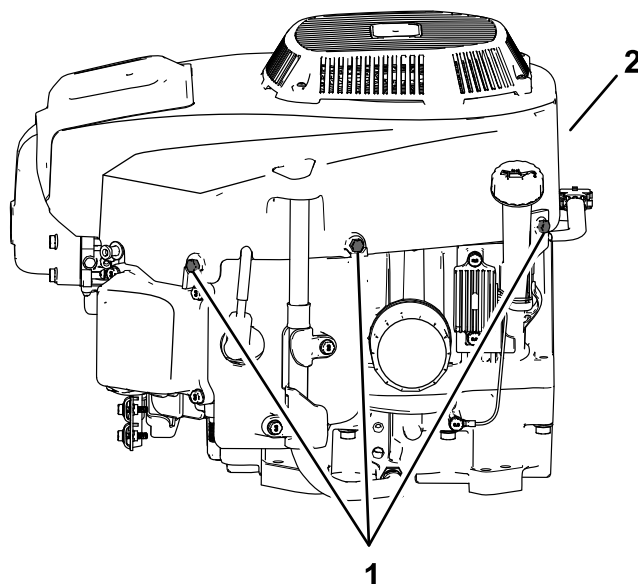

Figure 42
4. Loosen the bolts and remove the fan housing (Figure 42).